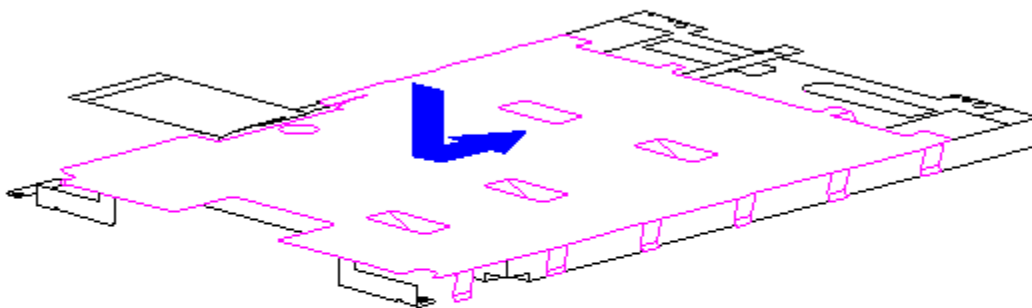

Figure 5-93. Placing the Display Shield on the CSTN (10.4 inch) Panel
3. Slightly lift the tabs on the left side of the display shield and slide the shield onto the CSTN (10.4 in) panel. Ensure that the LIF connector end of the display cable is exposed on the right side of the panel (Figure 5-93).